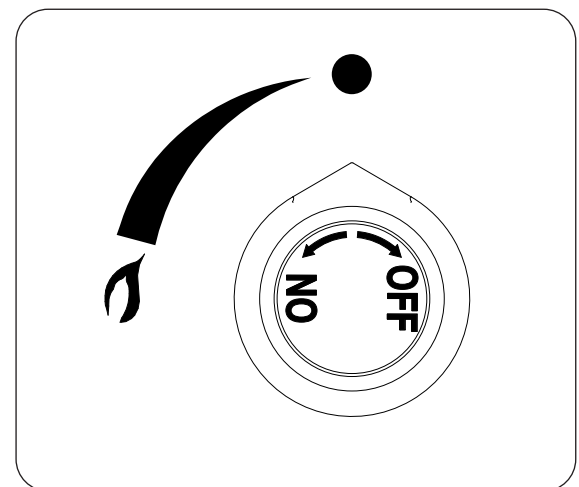

Fig. 49-2
4. **Once the match is burning and in position**, turn the gas control knob counter-clockwise to the **ON** position, depress, and hold for 15 seconds (see Fig. 49-2). Your burner should light within 5 seconds.
To extinguish your gas burner, depress the gas control knob and turn it clockwise to the **OFF** position (see Fig. 49-2). Be sure the control knob is turned fully off to avoid any gas leakage.